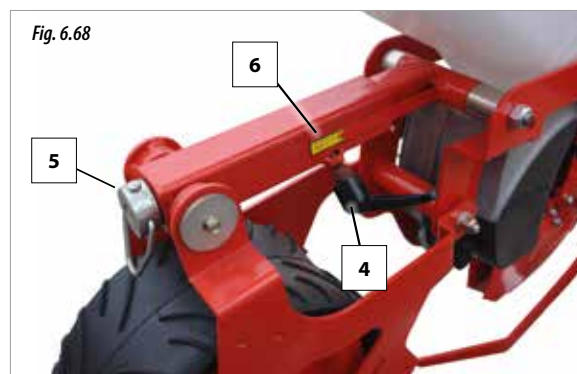

Fig. 6.68
- 1- Loosen the securing lever (4, Fig. 6.68)
- 2- Turn the crank (5, Fig. 6.68) to set the desired planting depth. For this purpose, use the indicator and the scale (6, Fig. 6.68) which is graduated from 0 to 10.
- 3- Fix the planting depth by pressing the lever (4, Fig. 6.68).